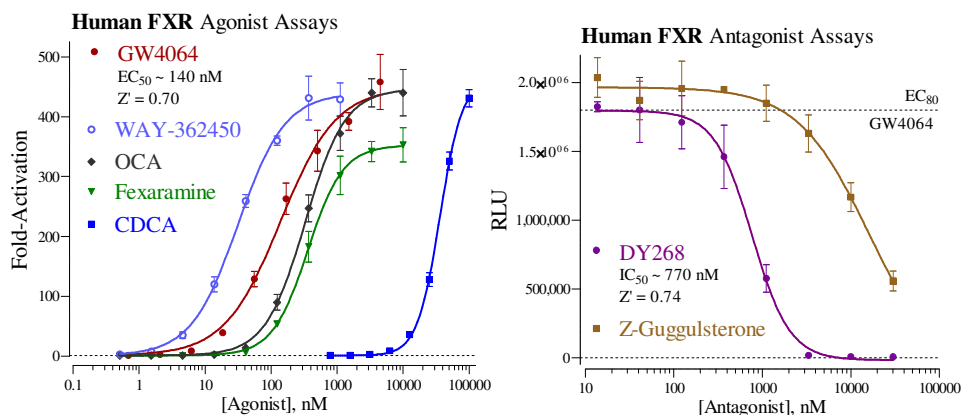

Figure 2. Agonist and Antagonist dose-responses of the FXR Assay.
- *Optional:* antagonist reference compound (see Fig. 2).
Receptor inhibition assays expose the Reporter Cells to a constant, sub-maximal concentration (typically between EC_{50} – EC_{85}) of a known agonist AND the test compound(s) to be evaluated for antagonist activity. This FXR assay kit includes a 5.0 mM stock solution of GW4064, a potent agonist of FXR (Figure 2) that may be used to setup such receptor inhibition studies. 300 nM GW4064 typically corresponds to $\sim EC_{80}$ in this cell-based assay. Hence, it presents a suitable concentration of agonist to be used when screening test compounds for inhibitory activity.